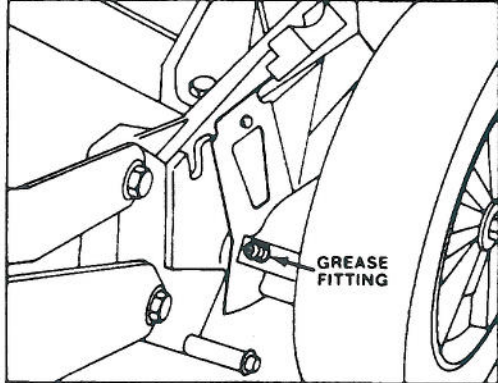

Figure 22
2. On self-propelled models, move rear wheel height-of-cut levers to "C" setting. Wipe grease fittings with clean rag (Fig. 22). Install grease gun onto fitting and gently apply 1 pump of #2 Multi-Purpose Lithium Base Grease. Excess pressure may damage seals.